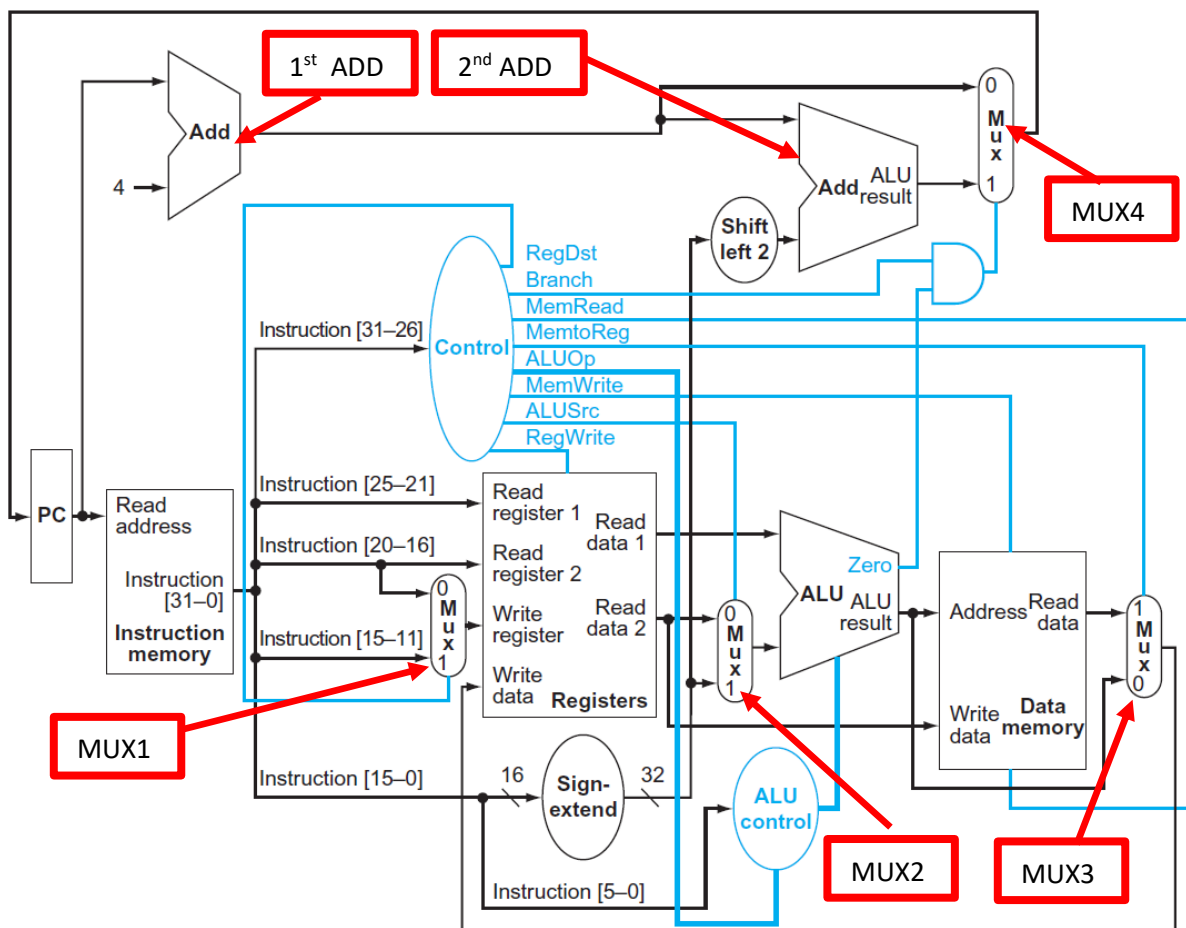
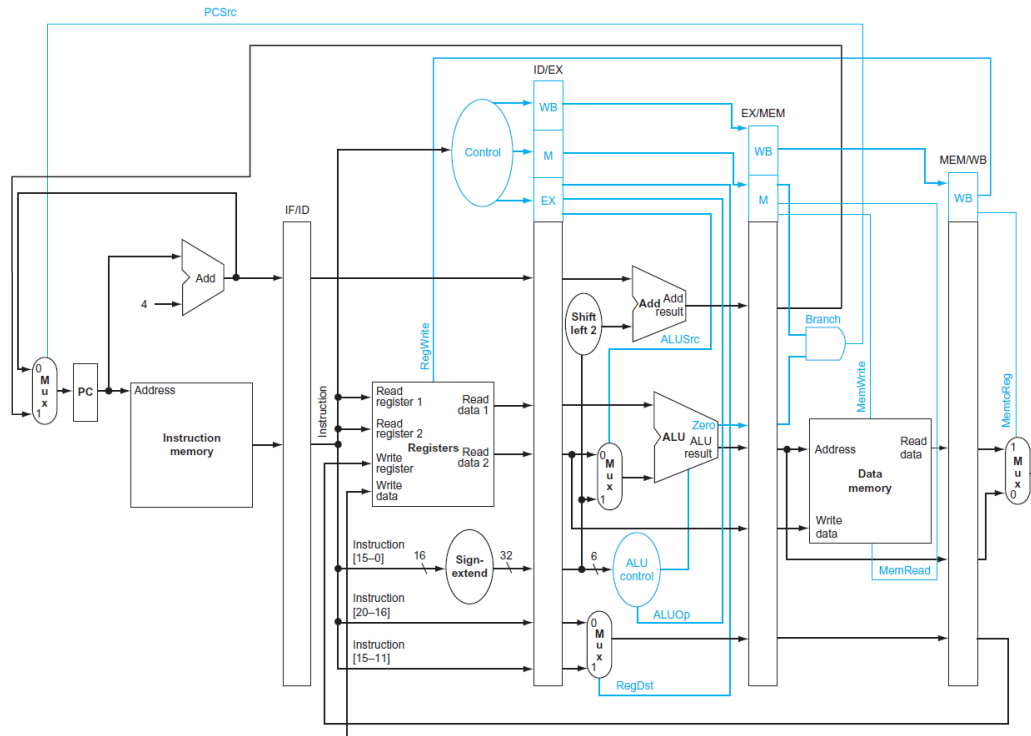
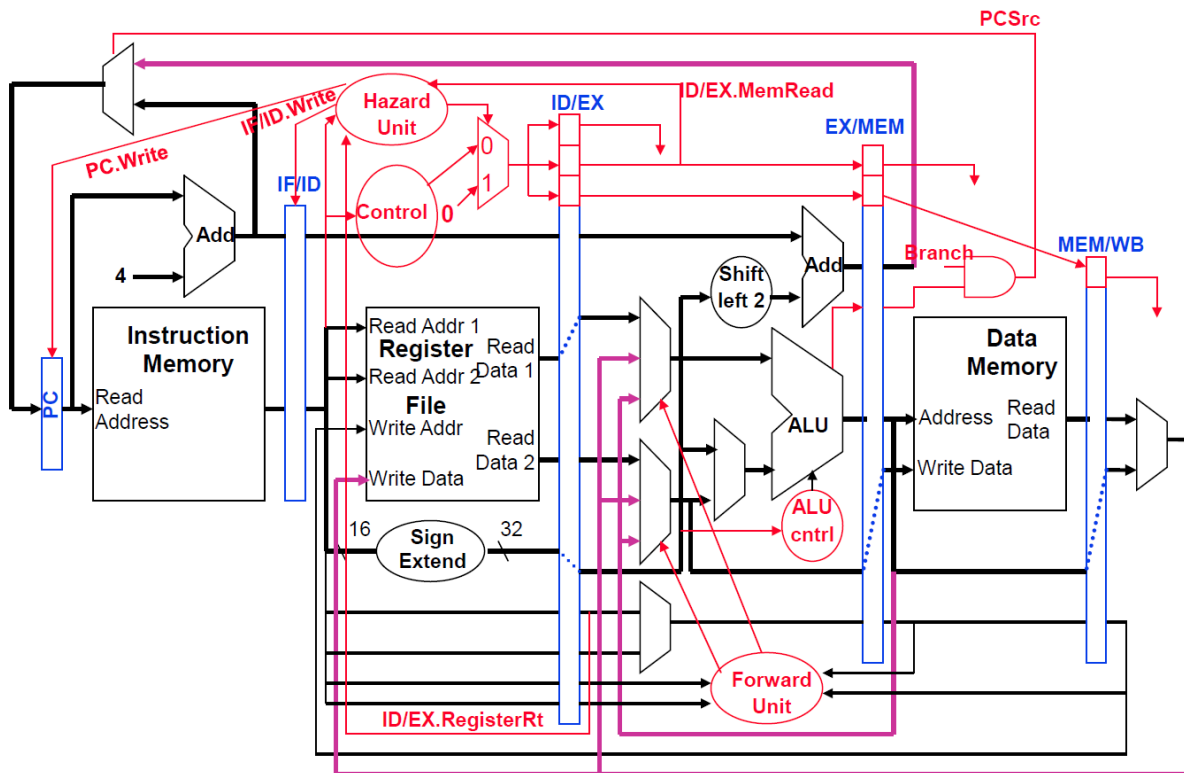

Figure 1. Single Cycle Processor (Required to get full credit)
Figure 2. Simple Pipelined Architecture (Required to get full credit)
Figure 3. Pipeline with Forwarding and Hazard Units (Bonus)
3. Combine all the phases of the project for **single cycle implementation** (Figure 1).
4. To **implement the pipelined architecture** leveraging the single cycle processor design without the forwarding unit and hazard unit (Figure 2).
5. **Bonus:** Implement **Forwarding** and demonstrate it for data-hazards (Figure 3). Next implement hazard unit for inserting bubbles and demonstrate it for between load word and R-type instructions. Up to 20% worth of points if you successfully implement, and demonstrate **both**. *You'll not be penalized at all for not finishing the bonus tasks.*
6. For Figure 2 (and bonus part) you need to implement the intermediate registers.
2. Slide 1. Explain whatever the final working project that you achieved – e.g. able to achieve complete integration of the three phases for single cycle implementation (Fig. 1), or similar statements for Fig. 2 and Fig. 3 – whatever you are able to achieve successfully.